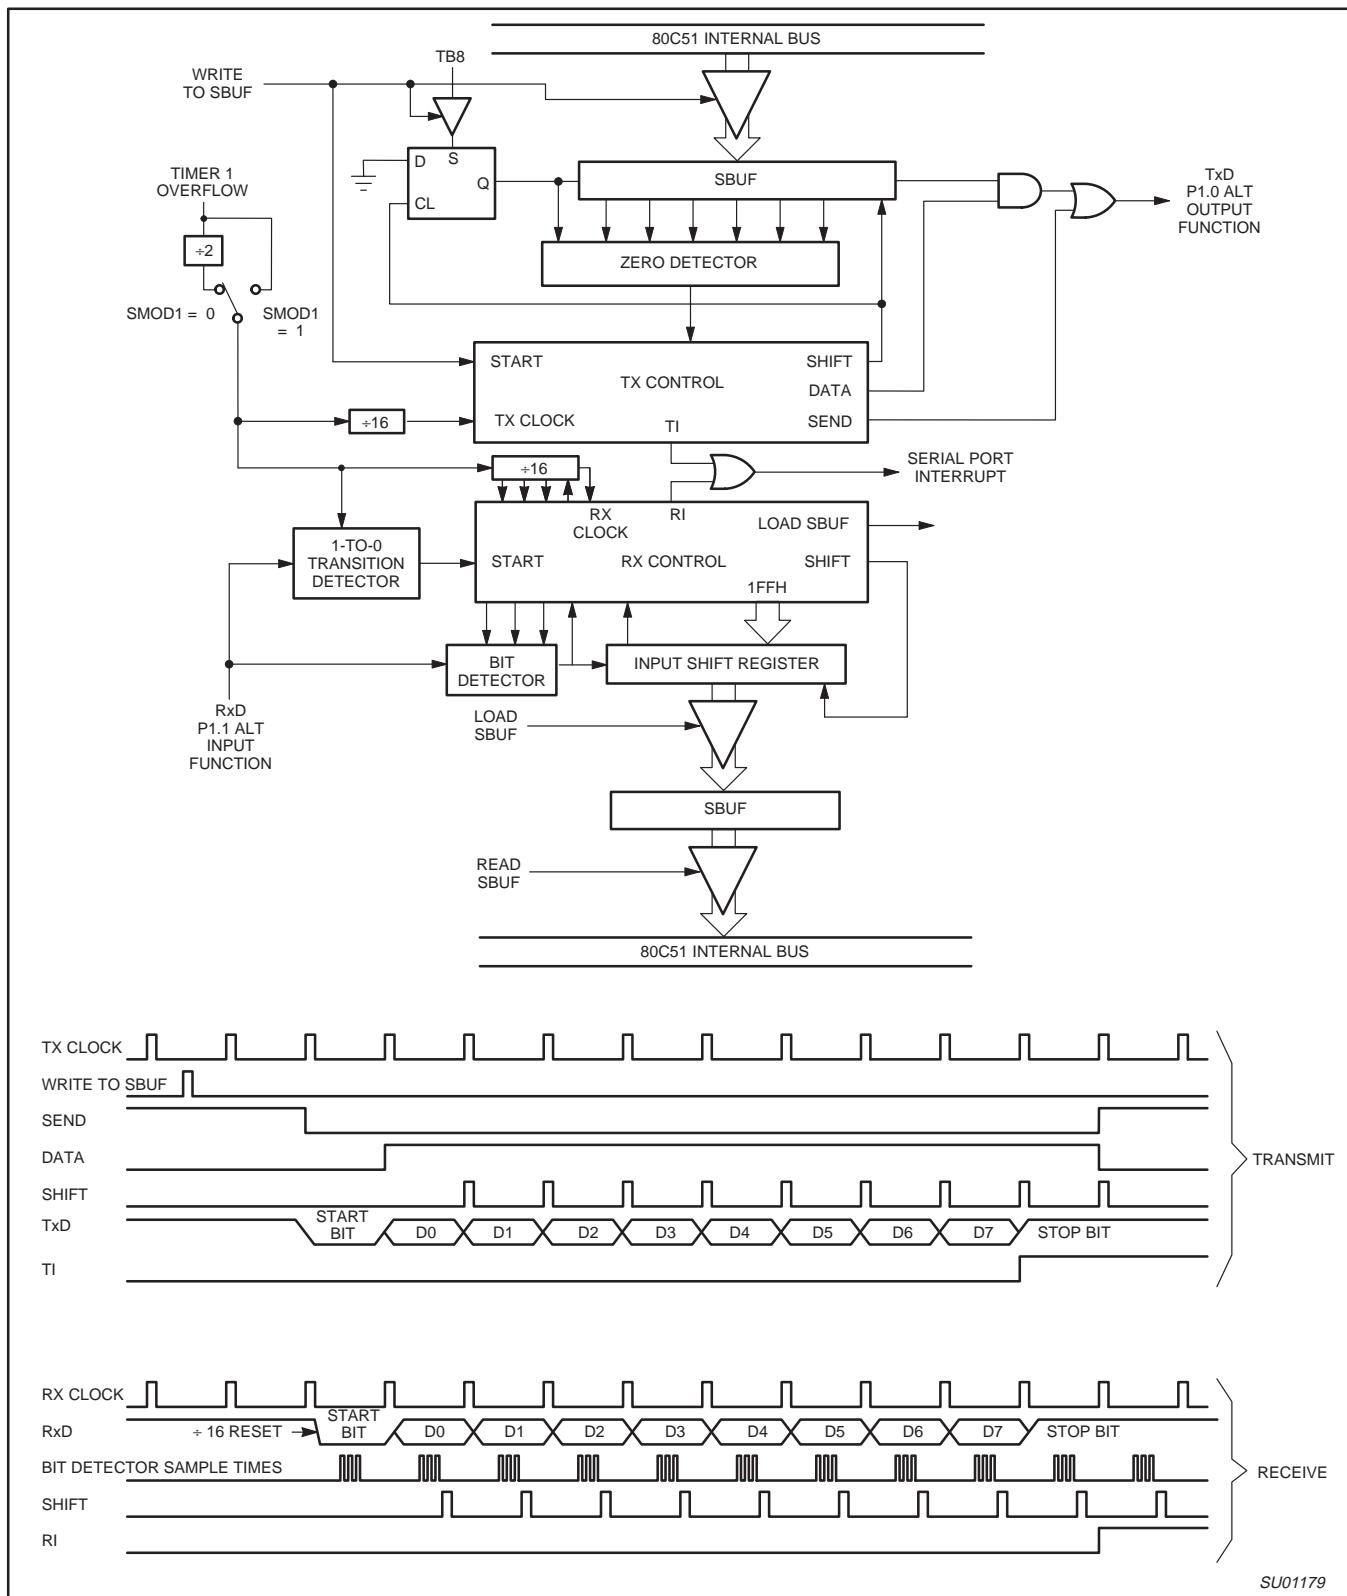

Figure 33. Serial Port Mode 1
Ten bits are transmitted (through TxD), or received (through RxD): a start bit (0), 8 data bits (LSB first), and a stop bit (1). On receive, the stop bit goes into RB8 in SCON. In the P87LPC768 the baud rate is determined by the Timer 1 overflow rate. Figure 33 shows a simplified functional diagram of the serial port in Mode 1, and associated timings for transmit/receive.